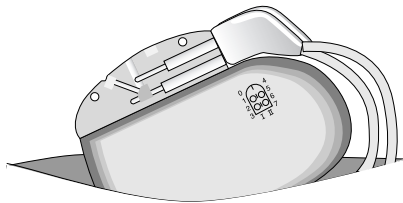

Figure 16. Implant neurostimulator.
11. Place the neurostimulator into the subcutaneous pocket, with the etched identification side facing outward away from the muscle layer of the body (Figure 16).